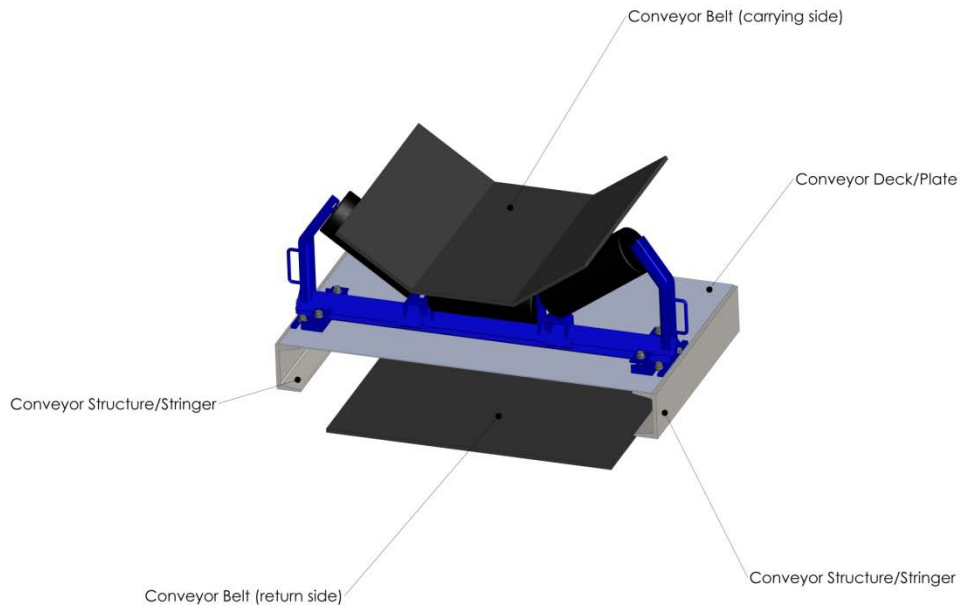

Figure 1
- 2. Disassemble Simple Slide Idler Frame as Shown in Figure 1**
- 3. Mount the Simple Slide Idler Fixed frame (4) to the conveyor structure or decking using mount bolts (20)**
- 4. Slide center roll assembly (10) onto fixed frame (4). This can be done from either side.**
- 5. Slide wing roll assemblies (10) onto fixed frame (4) and secure with mounting bolts (20), 3 on each side.**